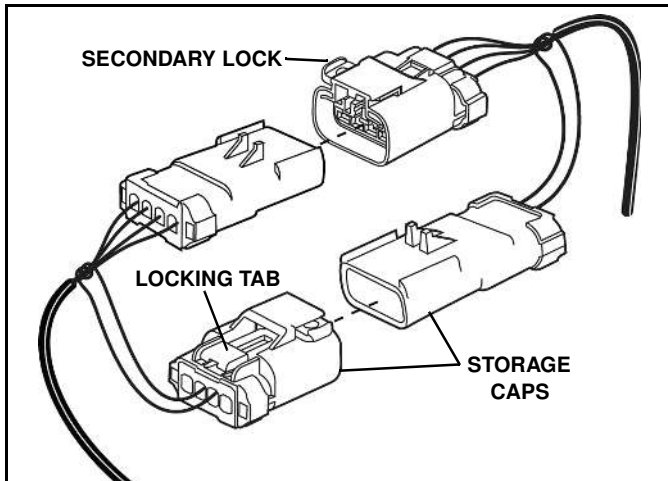

Figure 1-12
2. Disconnect the plow control harness and replace the protective cap. (See Figure 1-12)